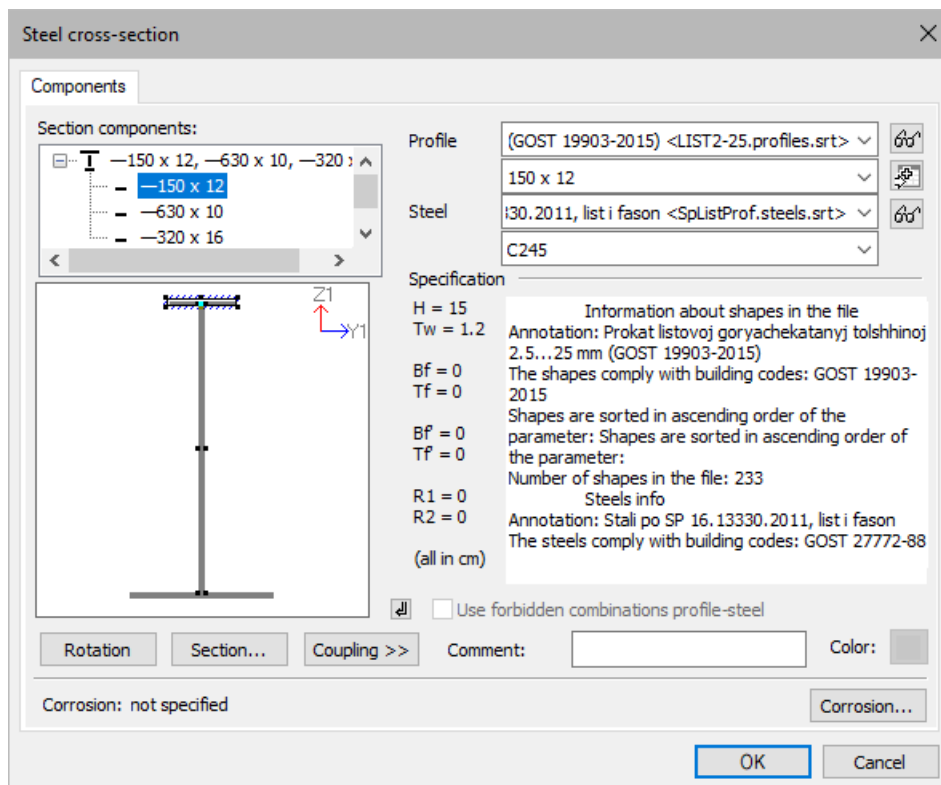

Figure 26.8. **Steel cross-section** dialog box
- ⇒ In the **Steel cross-section** dialog box (see Fig. 26.8), select the top flange of the I-section and define the following: